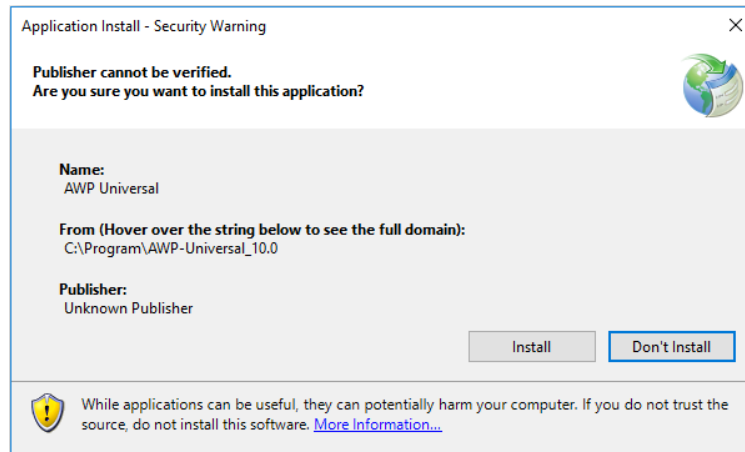

Figure 2.52 – Installing AWP Universal
9. Install the program to work with the device, for this, run the setup.exe file of the program installation and click the <INSTALL> button (Figure 2.52).